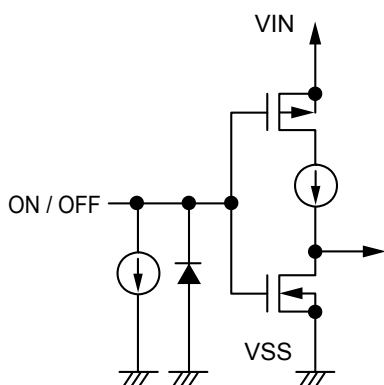

Figure 18 S-1313 Series A / C types
Note that the current consumption increases when a voltage of 0.25 V to $V_{IN} - 0.3$ V is applied to the ON / OFF pin. The ON / OFF pin is configured as shown in **Figures 18 and 19**.
*1. IC's current consumption increases as much as current flows into the constant current source when the ON / OFF pin is connected to VIN and the S-1313 Series A / C types is operating (**Figure 18**).